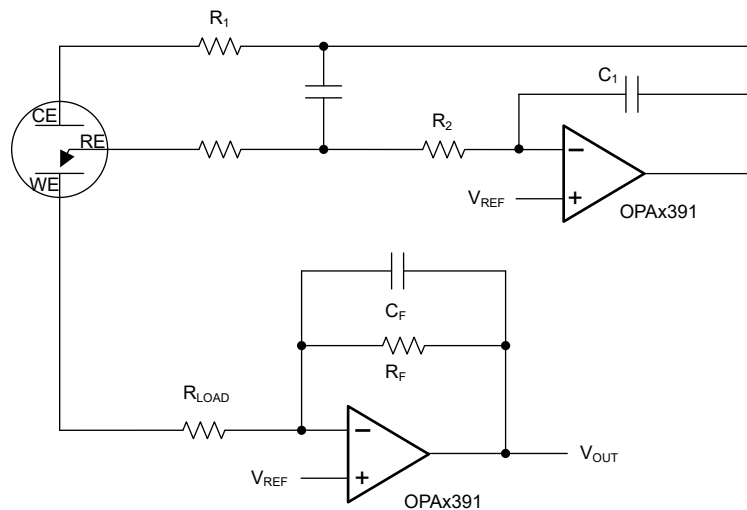

Figure 8-1. Three-Terminal CO Gas Sensor
Figure 8-1 shows a simple micropower potentiostat circuit for use with three-terminal unbiased CO sensors. This same design is applicable to many other type of three-terminal gas sensors or electrochemical cells. The basic sensor has three electrodes: the sense or working electrode (WE), counter electrode (CE), and reference electrode (RE). A current flows between CE and WE proportional to the detected concentration. The RE monitors the potential of the internal reference point. For an unbiased sensor, the WE and RE must be maintained at the same potential by adjusting the bias on CE. Through the potentiostat circuit formed by U1, the servo feedback action maintains the RE pin at a potential set by V_{REF} . R1 maintains stability as a result of the large capacitance of the sensor. C1 and R2 form the potentiostat integrator and set the feedback time constant. U2 forms a transimpedance amplifier (TIA) to convert the resulting sensor current into a proportional voltage. Equation 1 calculates the transimpedance gain, and resulting sensitivity, using R_F :